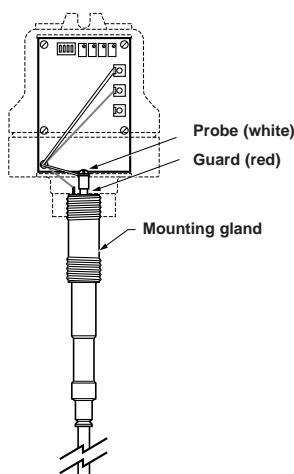

Figure 8
2. Tighten securely, being certain that wrench is applied only to the mounting gland. Refer to **Figure 8**.